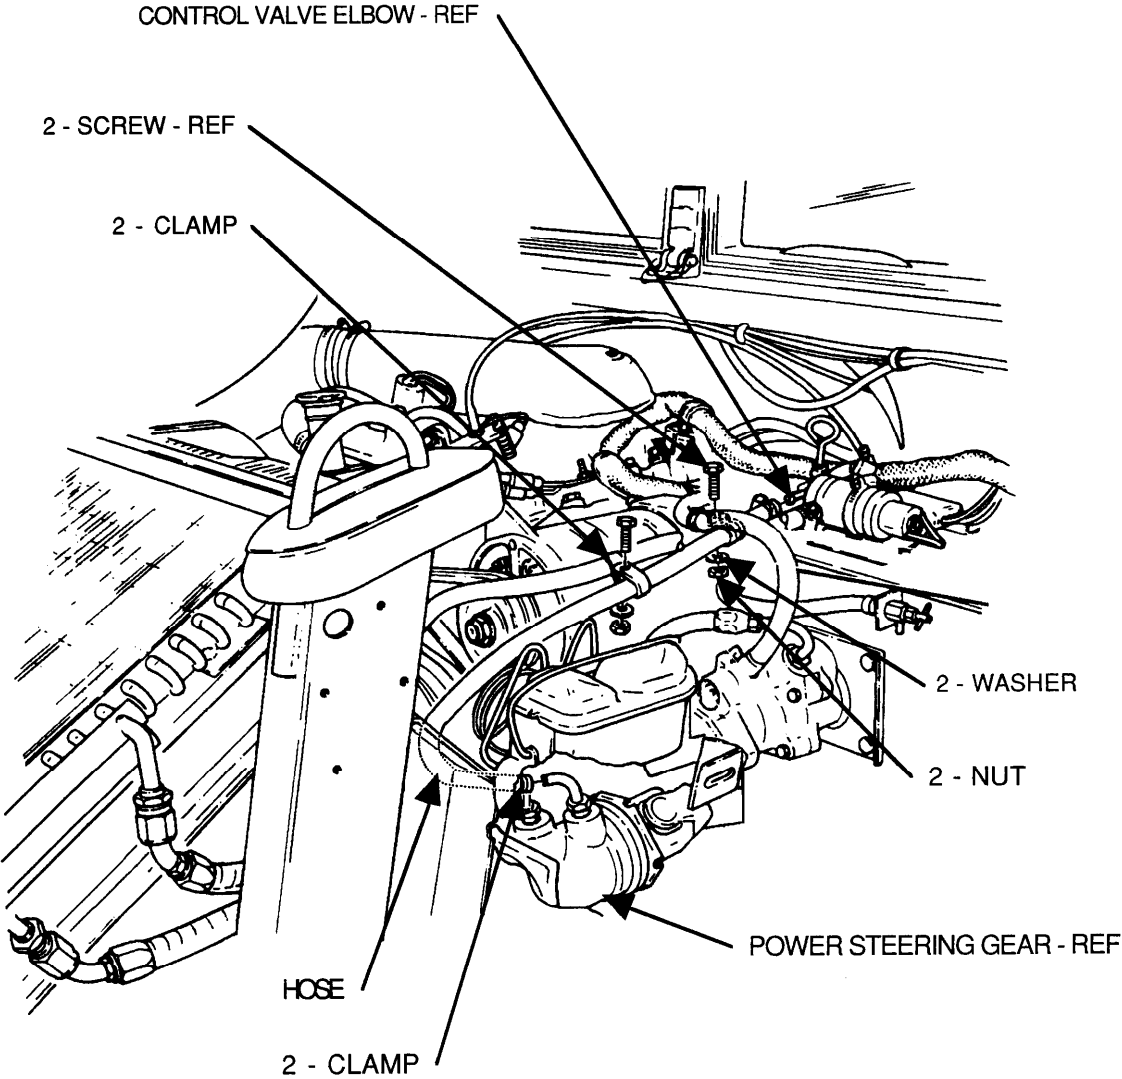

FIGURE 2
- (7) Remove two nuts, washers, screws, and clamps from power steering hoses as shown in figure 2. Save for installation.
- (8) Remove two clamps and hose from control valve elbow and steering gear as shown in figure 2. Save for installation.